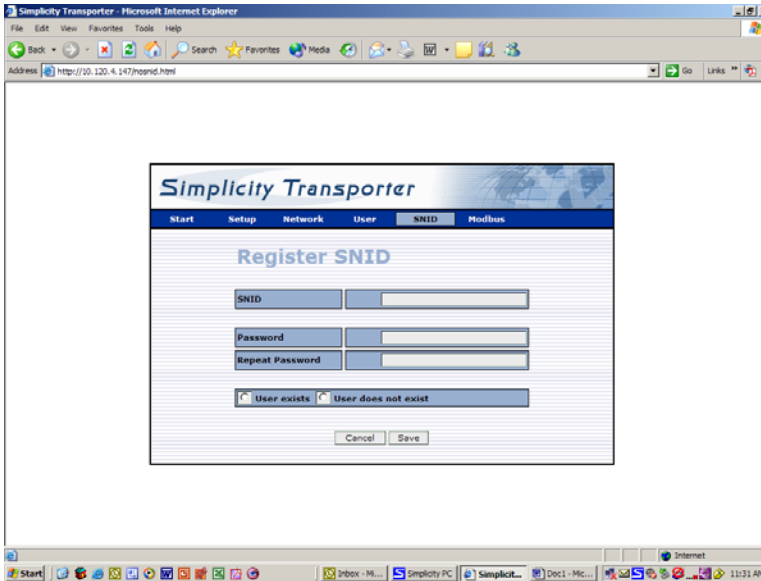
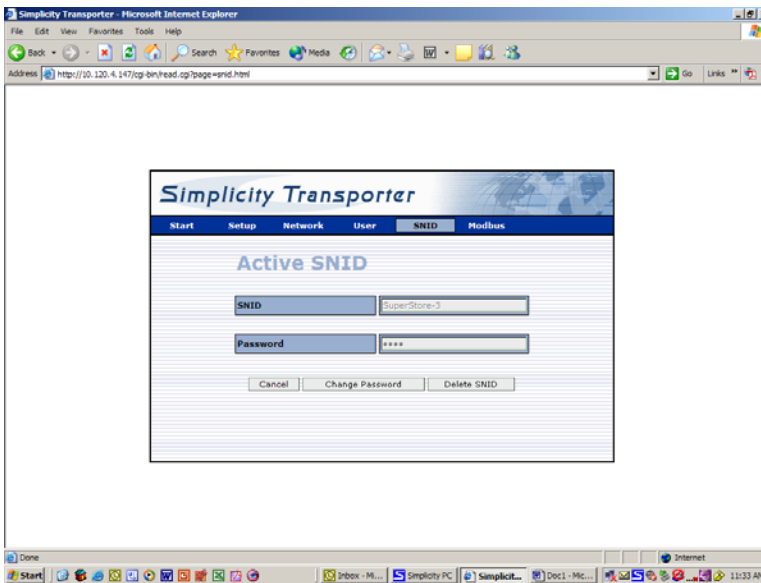

Figure 9 “Register SNID” screen
Figure 10
12. You are now taken to the “Register SNID” screen as shown in figure 9. Now give the “Transporter” a SNID of your own choosing. This is not “your SNID” that you selected previously. Select a new SNID for the “Transporter”. Remember every connection has a SNID of its own. You have your personal SNID and now the “Transporter” will need one of its own. Select the “Save” button and you will be taken to the “Active SNID” screen in figure 10.